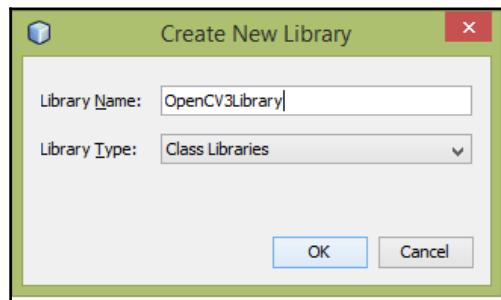

Figure 7-6: Create New Library
2. In the **Create New Library** dialog box (Figure 7-6), type `OpenCV3Library` for the **Library Name** and click the **OK** button: